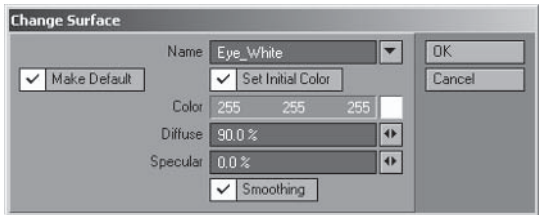

Figure 5.3-77. Eye surface.
- 2. Change Surface to Eye_White using the settings in Figure 5.3-77.